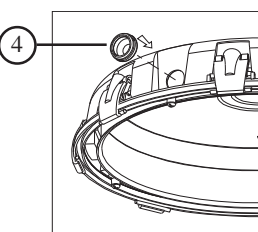

Fig. 7
10. **To prepare fixture for Top Port Wiring entry** install Hole Plug (4) into open hole on exterior of Fixture Housing. **See Fig. 7.**